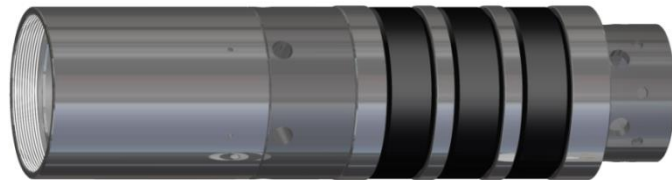

Fig. 7
L-11.1) Screw rubber mandrel (11) (of rubber mandrel assembly) into center coupling (10) (of by-pass housing assembly). Hand-tighten until body of rubber mandrel (11) makes contact with o-ring (40) (Fig. 7).